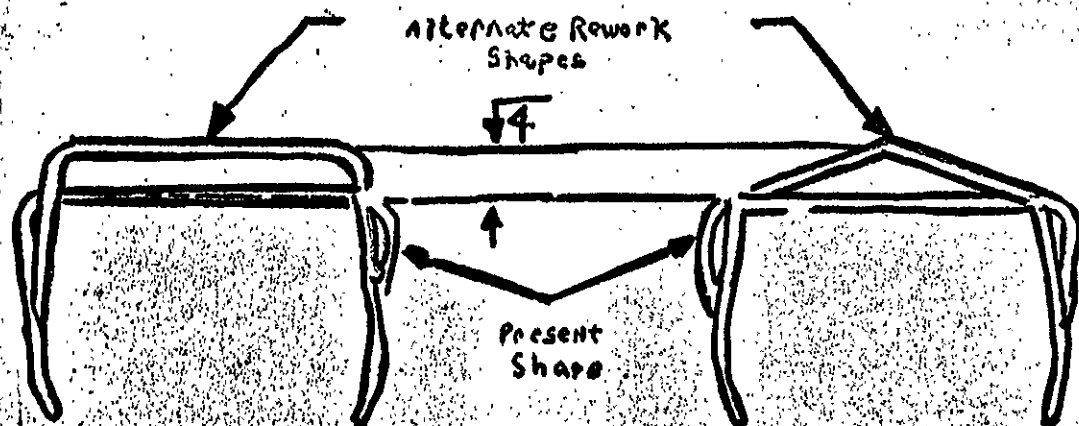

Figure 1
2. Remove starter terminal junction cover and rework as shown on Figure 1 by bending.